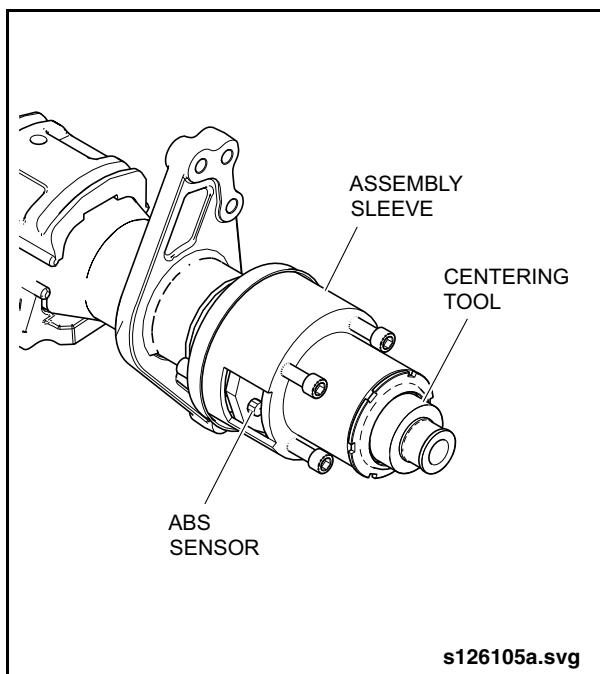

Fig. 2-146: Assembling Centering Device
1. Assemble the centering device tool using Items 3, 4, 5, 6 & 7 from special tools list. See “Fig. 2-146: Assembling Centering Device” on page 128.